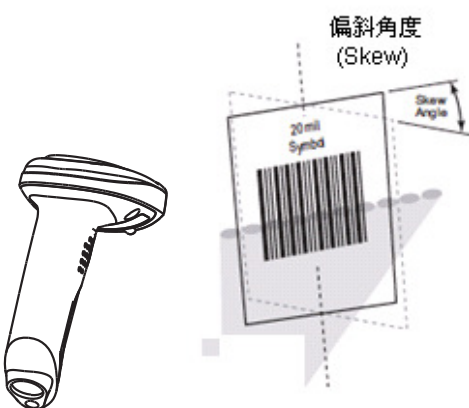

Fig. 1-12
- ✧ Skew: $\pm 60^\circ$, 0° Roll and 0° Pitch (Fig. 1-12)